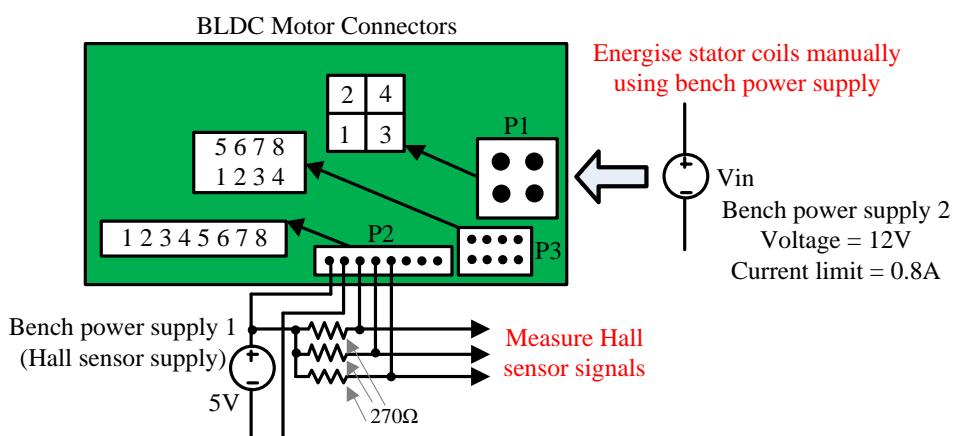

Figure 2. Energising stator winding manually using bench power supply to find out relationship between rotor position and Hall sensor signals.
- Referring to Fig. 2, Figure A4 and Table A1, energise the stator winding manually by using a bench power supply to align the rotor to a specific angle and determine the Hall sensor signals (H1, H2 and H3). Refer to steps 1 – 4 in appendix A.